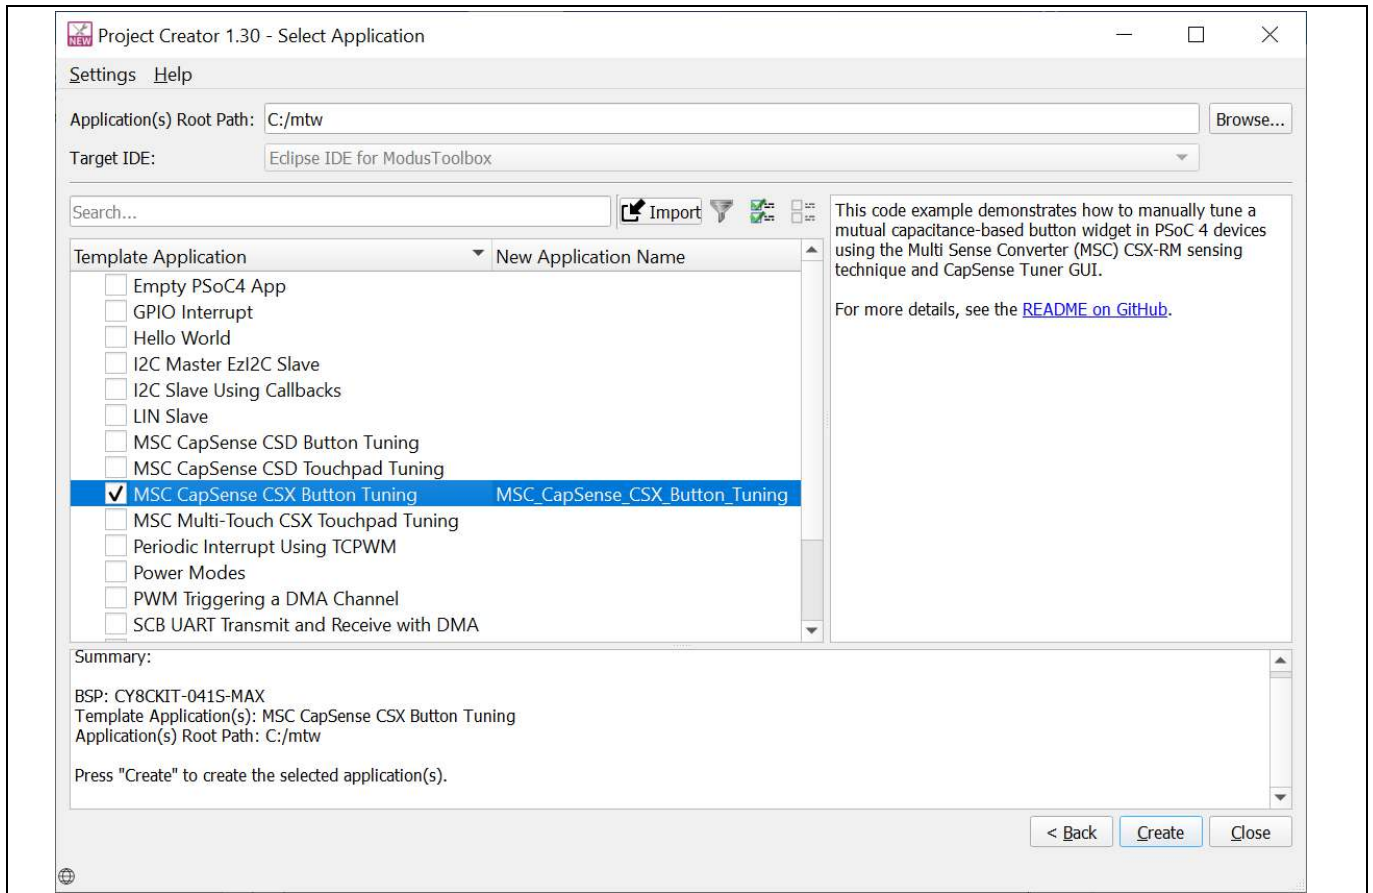

Figure 10 CY8CKIT-041S-MAX Application selection
- c. Select the application and click **Create**, as shown in **Figure 10**.
Note: There are more code examples available in ModusToolbox™ IDE (see **Figure 10**) or in GitHub page dedicated to **ModusToolbox™ based examples**, to evaluate the capacitive sensing expansion board: **PSoC™ 4: MSC multi-touch mutual-capacitance touchpad tuning**, **PSoC™ 4: MSC Self-Capacitance Touchpad Tuning**, **PSoC™ 4: MSC Self-Capacitance Slider Tuning** etc.